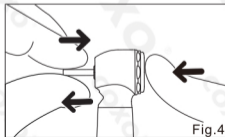

Fig.4
- 4) To remove the bur, depress the push button firmly and remove the bur (Fig.4).